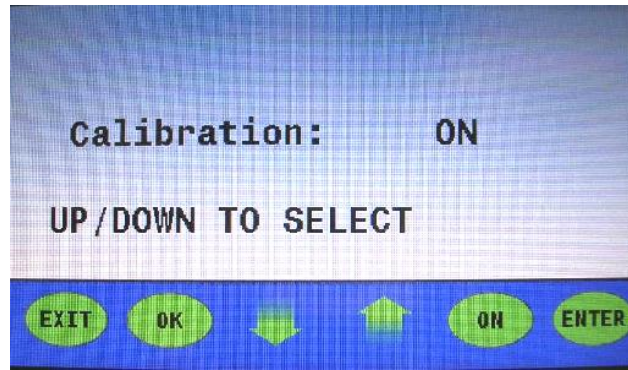

Figure 3
7. The display will read "CALIBRATION: ON" **(Figure 3)**